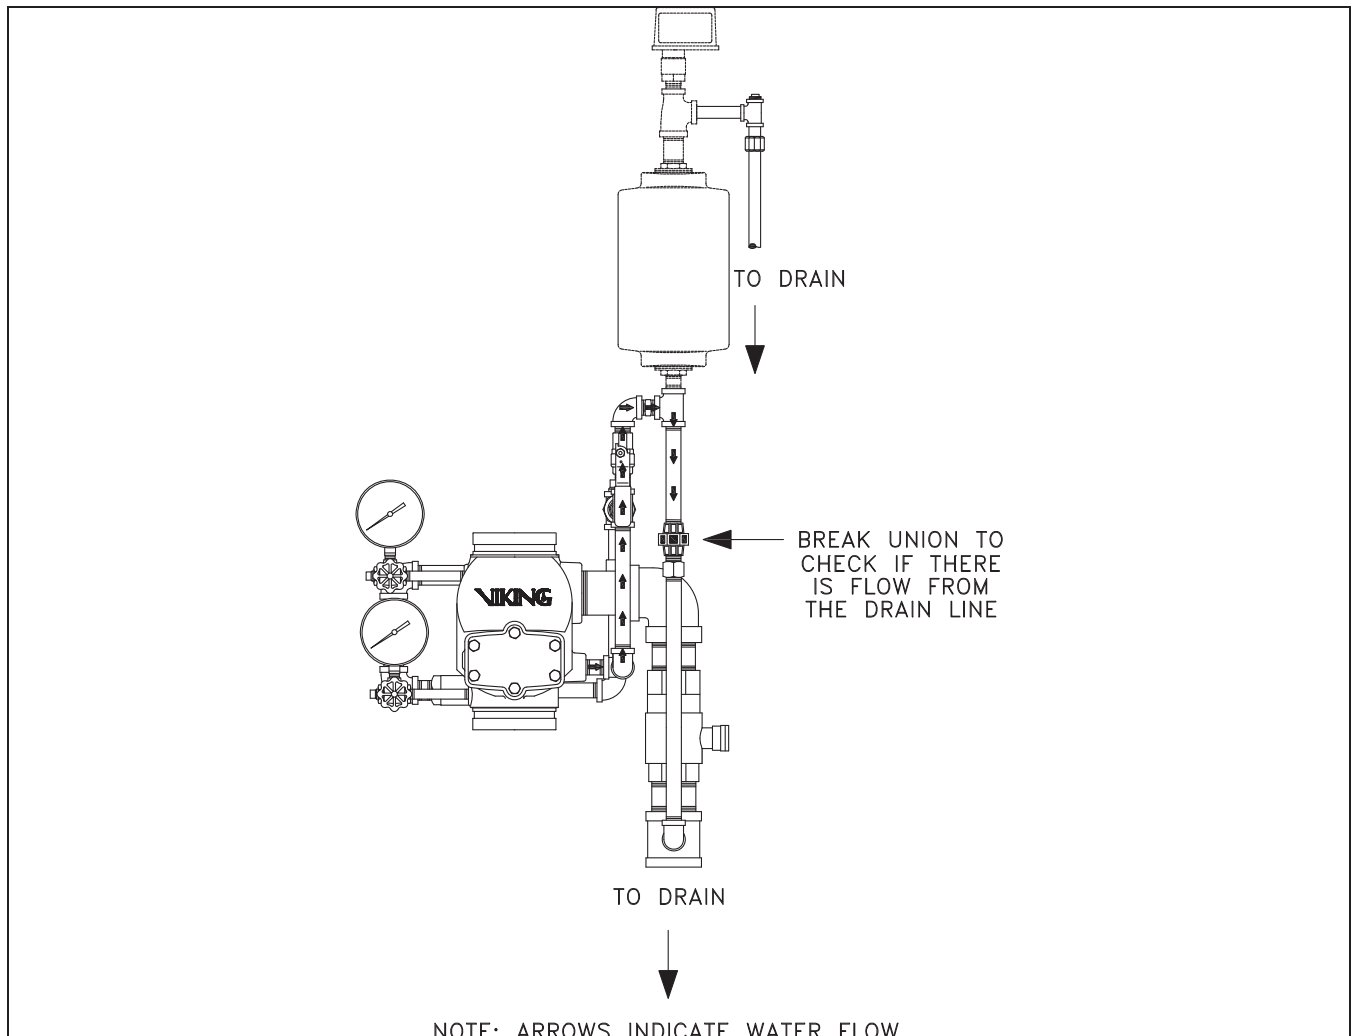

Figure 60
3. If the bypass check valve is not leaking, the second thing to do is clean or replace alarm valve clapper rubber. (Refer to Figure 60.) Begin by breaking the union in the retard chamber drain line to check the flow from the drain line.